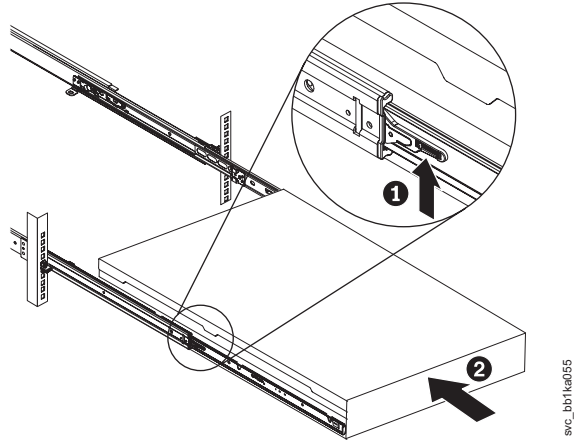

Figure 244. Raising the SAN Volume Controller 2145-CF8 or 2145-CG8 locking levers of the slide rails of the rack
11. Lift the locking levers (**1** in Figure 244 on page 244) on the slide rails and push the server **2** all the way into the rack until it clicks into place.